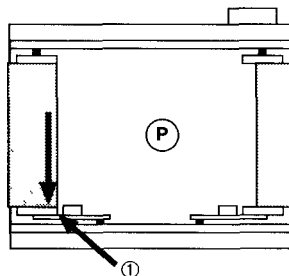

Figure 9.
Step 5: Turn the film advance knob to wind the film securely onto the empty spool. Advance the film until an arrow printed on the film backing appears. Stop when the arrow lines up with the arrow stamped on the left metal tab (① in Figure 9).